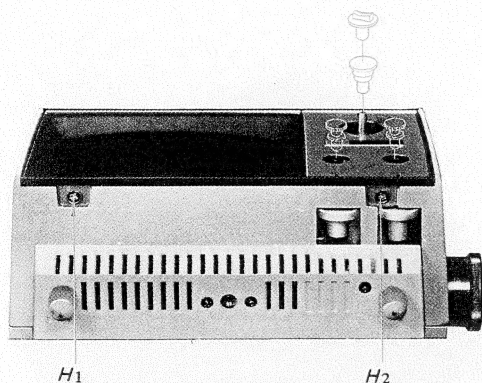

Fig. 2-10
1. Pull off four front-panel knobs as shown in Fig. 2-10.
2. Remove the two screws labeled H1 and H2 in Fig. 2-10.